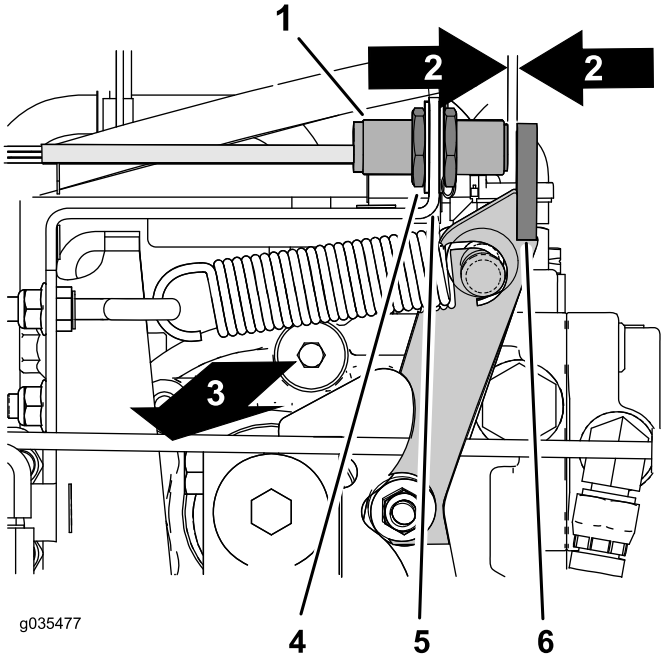

Figure 71
- Locate the proximity sensor at the right, top side hydraulic pump (Figure 71).
- Verify that the proximity sensor bracket is not bent, and that the light at the back of the sensor is illuminated (Figure 71).
2. Loosen the jam nuts at either side of the sensor bracket (Figure 71).
3. Adjust jam nuts until there is a 2.5 to 3.6 mm(0.10 to 0.14 inch) gap between the end of the proximity sensor and the flange of the neutral arm (Figure 71).
4. Tighten the jam nuts (Figure 71).